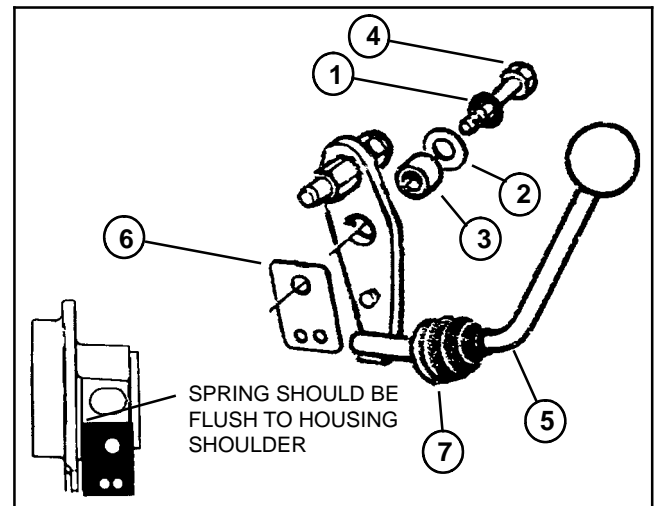

Figure 16
9. Install clutch lever to the clutch housing (Fig. 16).